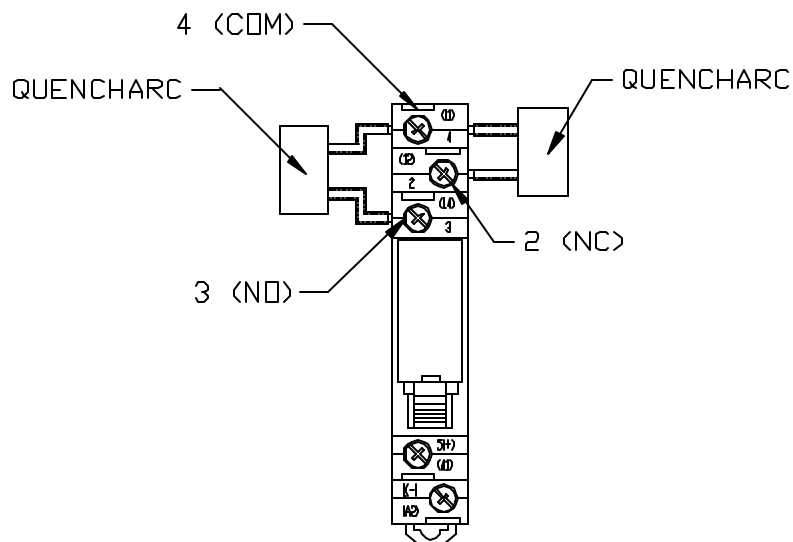

Fig. 22: Mechanical Relay Module
The Relay module is offer with three different types of relays, mechanical and solid state (AC or DC). The mechanical relay's output consists of terminal 4 - common (COM), terminal 3 - normally open (NO), and terminal 2 - normally closed (NC) (see FIG 22). The mechanical relay (OMRON G2R-1-SN) is rate for a maximum of 10A @250VAC or 10A @30VDC. Relay drive current for mechanical relay is 70mA @ 5VDC. The solid state relay's output consists of terminal 3 and 4 - normally open (NO). The solid state relay (OMRON G3R-OA202-SZN / G3R-ODX02SN-DC524) is rated for a maximum of 2A @100-240VAC / 2A @5-48VDC. Relay drive current for solid state relay is 11mA @ 5VDC. The relay control is described in Parameter Setup Section. Table 14 lists the scale signal cable wire color control for each relay module.